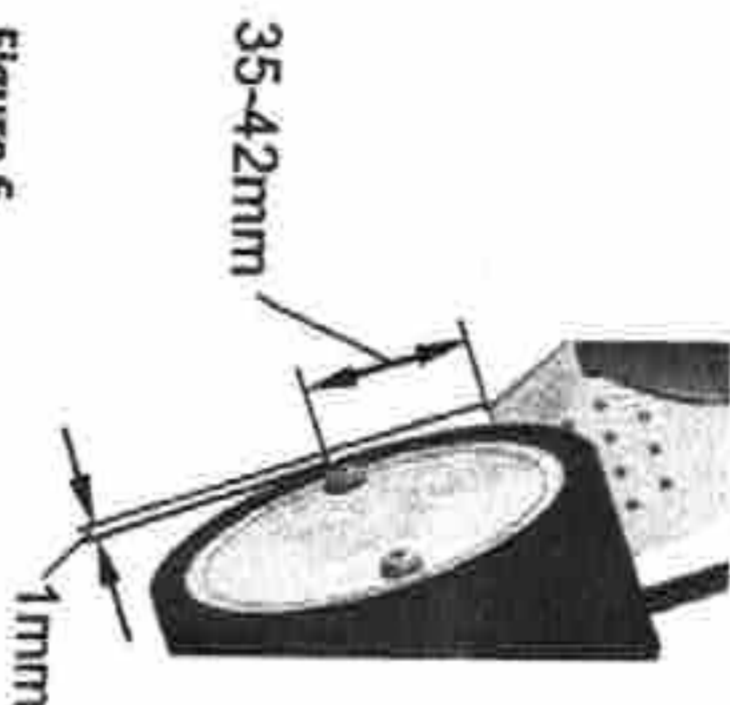

Figure 6
2. The distance between hot air nozzle and Drive roller should be shown as figure 6 (We have adjusted the distance) . You can adjust Hot air nozzle adjusting screw figure 7 if the distance is not right.